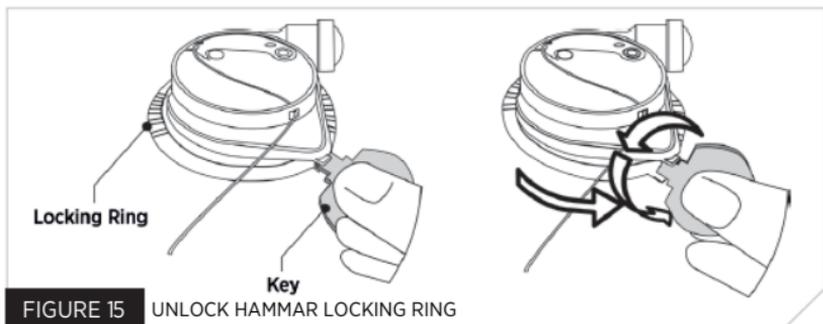

FIGURE 15 UNLOCK HAMMAR LOCKING RING
3. Insert the metal key between the black locking ring and the labelled yellow cap. Turn the key counterclockwise (Fig. 15).